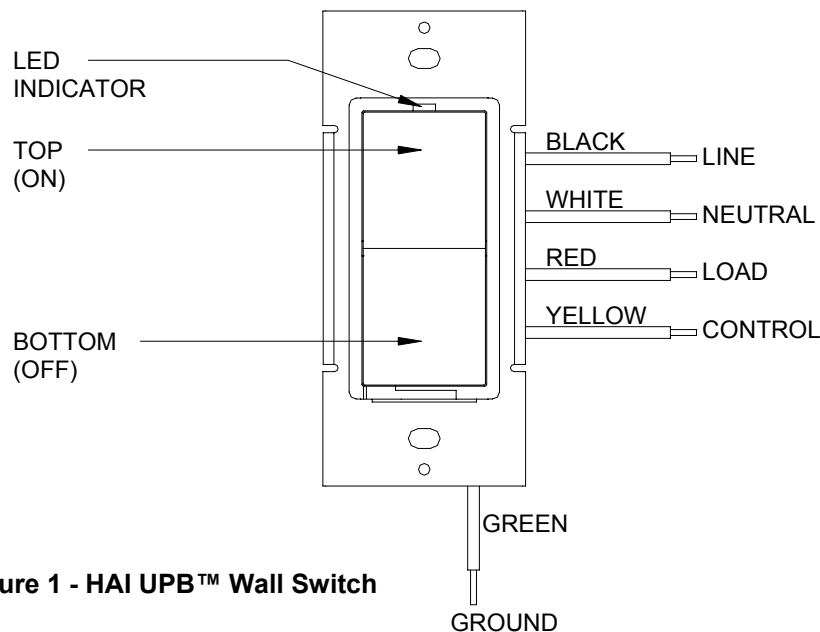
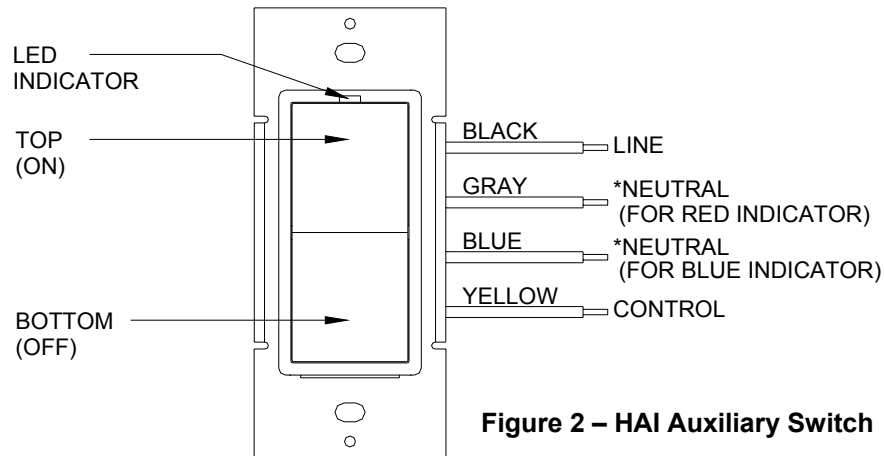

Figure 1 - HAI UPB™ Wall Switch
Figure 2 – HAI Auxiliary Switch
The HAI UPB™ Wall Switch (Figure 1) allows for local control of loads by using the Decora-style rocker switch. It also incorporates the UPB™ two-way powerline communication technology that gives it the ability to be remotely controlled by UPB™ compatible controllers. The HAI UPB™ Wall Switch is also capable of transmitting UPB™ messages when the rocker switch is turned on or turned off.
The 37A00-1 HAI Auxiliary Switch (Figure 2) is an optional companion device used with the HAI UPB™ Wall Switch for multi-way circuits. The HAI Auxiliary Switch has a Decora-style rocker switch that controls the load in the exact same manner as the Decora-style rocker switch on the HAI UPB™ Wall Switch.
1. Refer to Figures 1 and Figure 2 to determine the wire colors for each connection.